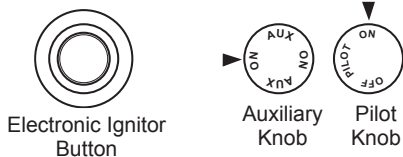

Figure 17 - Pilot Knob In The ON Position
5. Press in pilot knob and turn counterclockwise  to the PILOT position. Keep pilot knob pressed in for five (5) seconds (see Figure 17).